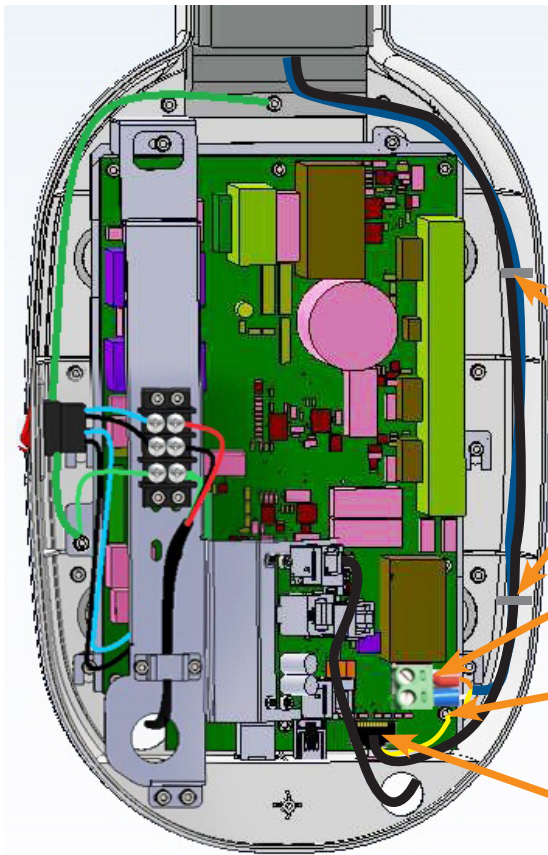

Figure 27
- Connect the communication cable to the J2 connector and Inverter power cable to the J1 connector using screw driver (Non-polarised) as shown in Figure 27 . Using a 2.5 mm allen key, connect the GND wires of both the scissor-arm cables to the Power Board fixing screw (M3x6 HSHC) as shown in Figure 27 .